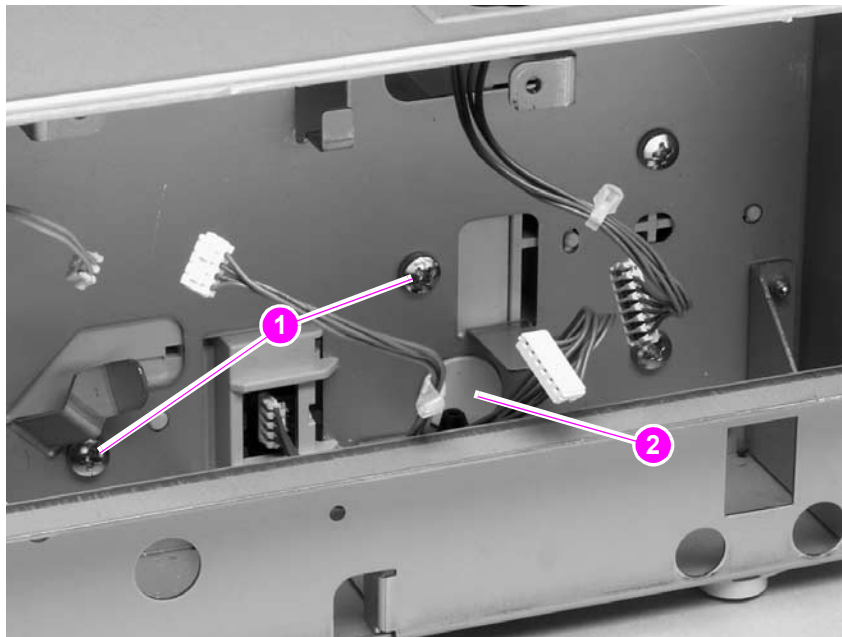

Figure 169.
3. Push the locking tab (figure 169; callout 2) and slide the sensor toward the front of the feeder to release it. Remove the sensor.